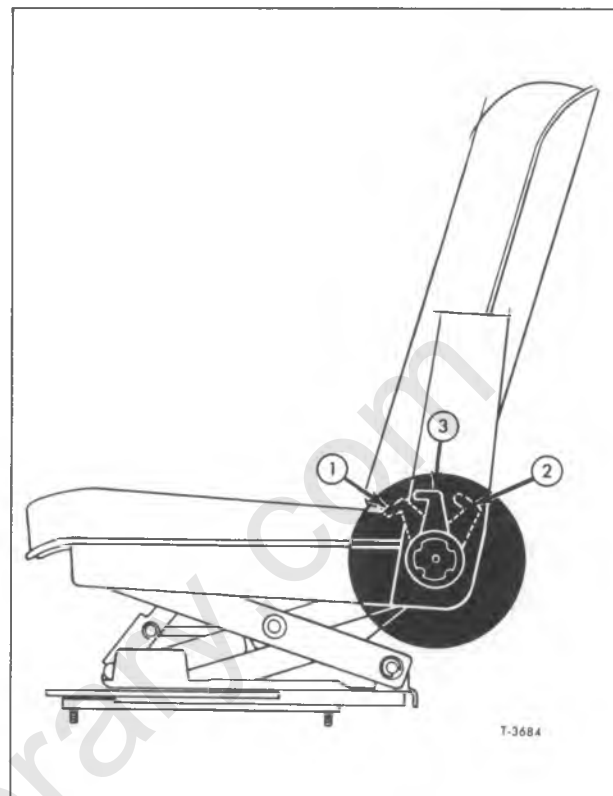

Figure 10—Ride Level Indicator
Proper adjustment is indicated by the ride level indicator (fig. 10), which is located behind left frame upright. Position 3 in figure 10 indicates correct adjustment (tip just flush with forward edge of upright). If seat is too stiff, the indicator will be in position 1; if too soft, in position 2. Adjust for position 3 by moving lever (C, fig. 8). Direction of ratcheting action may be changed by moving control at base of lever. Turning lever
2. Remove preload on torsion bars by rotating adjuster lever assembly (30) counterclockwise until adjuster assembly is disengaged from seat.
4. Disengage seat cushion from assembly by removing nuts, lock washers and washers (48, 47, and 46). Move seat cushion forward to free rubber rollers (45) from housing under seat cushion.
5. Remove right-hand side panel assembly (29) by tapping out sideways. This allows yoke (26) to drop free (figs. 10 and 11).
6. Remove torsion bar set (27) from tube.